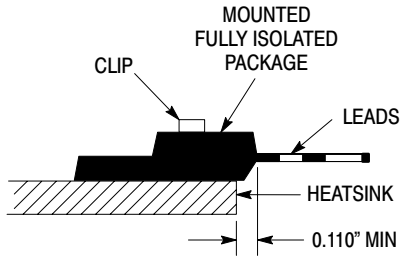
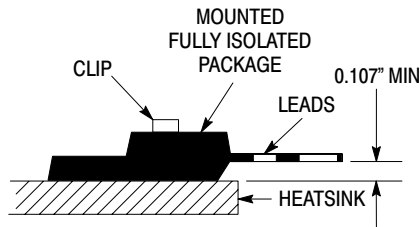
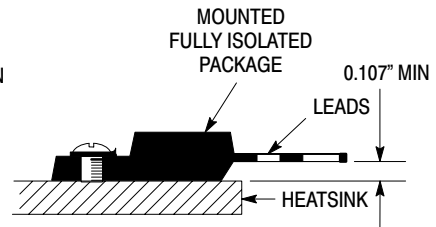

Figure 14. Clip Mounting Position for Isolation Test Number 1
Figure 15. Clip Mounting Position for Isolation Test Number 2
Figure 16. Screw Mounting Position for Isolation Test Number 3
| RMS Isolation Voltage (1)(for 1 sec, R.H. < 30%,T A = 25°C) | Test No. 1 Per Fig. 14Test No. 2 Per Fig. 15Test No. 3 Per Fig. 16V ISOL | 450035001500 | V RMS |